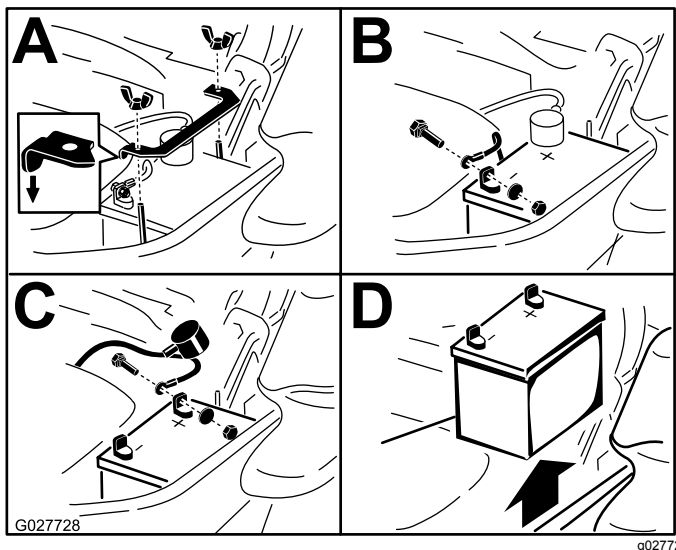

Figure 58
3. Remove the battery as shown in Figure 58.
Note: Position the battery in the tray with the terminal posts opposite from the hydraulic tank (Figure 58).